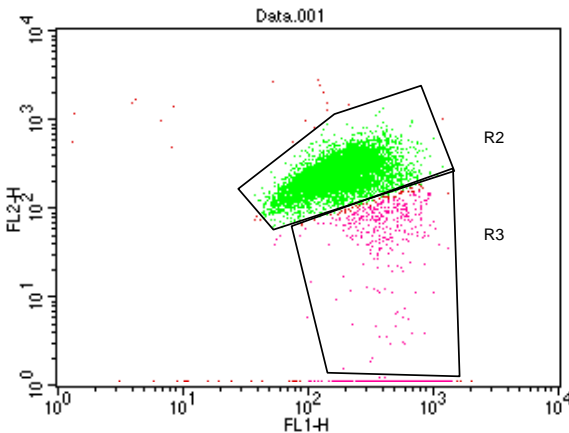

Figure 1: Negative cell control, Log FL1 (X-axis) and log FL2 (Y-axis) R2 = 91.07% R3 = 8.08%.
2. Add two regions, R2 and R3, as shown in Figure 1.
3. Run the negative control sample first (non-induced cells). Adjust the FL1 and FL2 PMT voltages so that the majority of the cell population falls within the upper right hand region. The peak of the dual fluorescent population should fall within the second and third log decade scale of FL1 (X-axis) and FL2 (Y-axis) as seen in Figure 1.
5. Next, adjust R3 so that it falls directly below R2, as in Figure 1.
In Figures 1 and 2, cells were analyzed in a FACS Caliber Becton Dickinson Flow Cytometer. Jurkat cells were either treated with DMSO (negative, non-induced cells) or with staurosporine (apoptotic, induced cells) for 3 hours at 37°C and then labeled with MitoPT™ JC-1 for 15 minutes. Collapse of the mitochondrial $\Delta\Psi_m$ is indicated by an increase in the number of cells falling into R3 corresponding to a loss of red fluorescence, indicative of the onset of apoptosis or other $\Delta\Psi_m$ depolarizing event. (In these figures of flow cytometer data, nonapoptotic cells are in R2, which prints in green, and apoptotic cells are in R3, which prints in pink.)